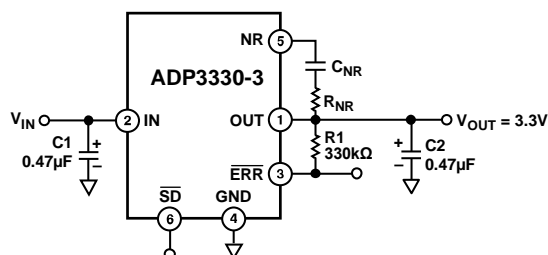

Figure 23. Noise Reduction Circuit
A noise reduction capacitor (C_{NR}) can be used to further reduce the noise by 6 dB to 10 dB (see Figure 23). Low leakage capacitors in the 10 pF to 500 pF range provide the best performance. Carefully connect to this node to avoid noise pickup from external sources because the noise reduction pin (NR) is internally connected to a high impedance node. The pad connected to this pin must be as small as possible and long PCB traces are not recommended.